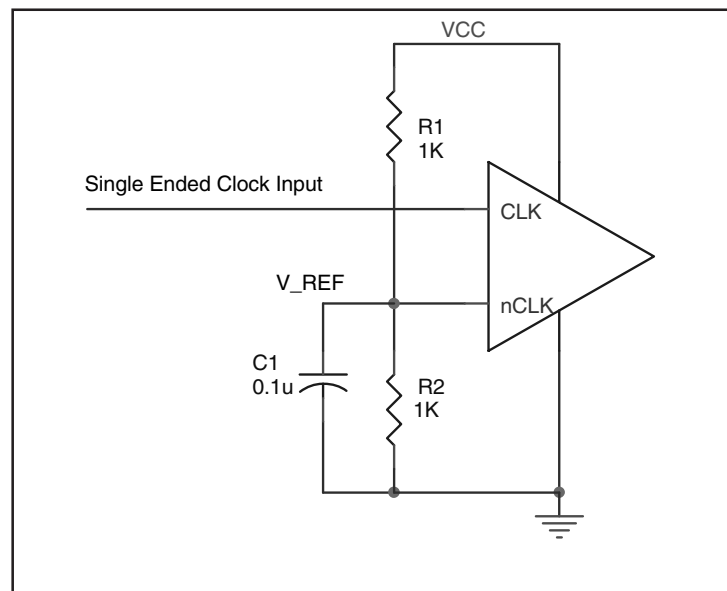

FIGURE 2. SINGLE ENDED SIGNAL DRIVING DIFFERENTIAL INPUT
*Figure 2* shows how the differential input can be wired to accept single ended levels. The reference voltage  $V_{REF} \approx V_{cc}/2$  is generated by the bias resistors R1, R2 and C1. This bias circuit should be located as close as possible to the input pin.